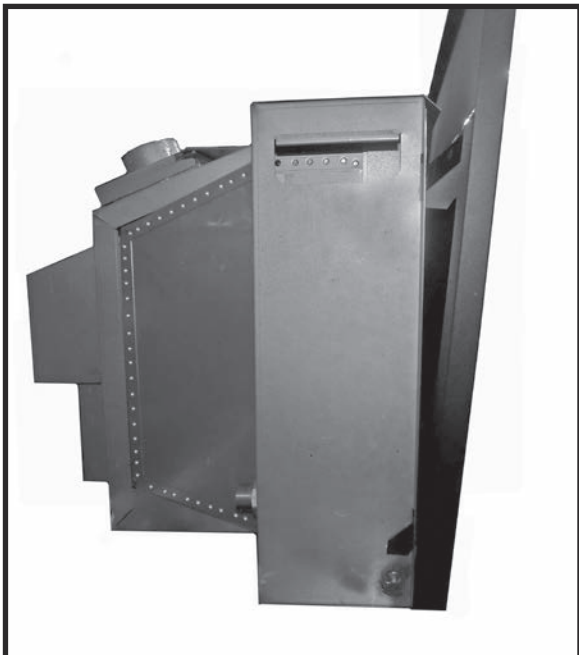

Figure 118: Mounting the backing plate.
2. Place the backing plate onto the fireplace by inserting its four hooks into the four slots on the fireplace frame (Figure 118).